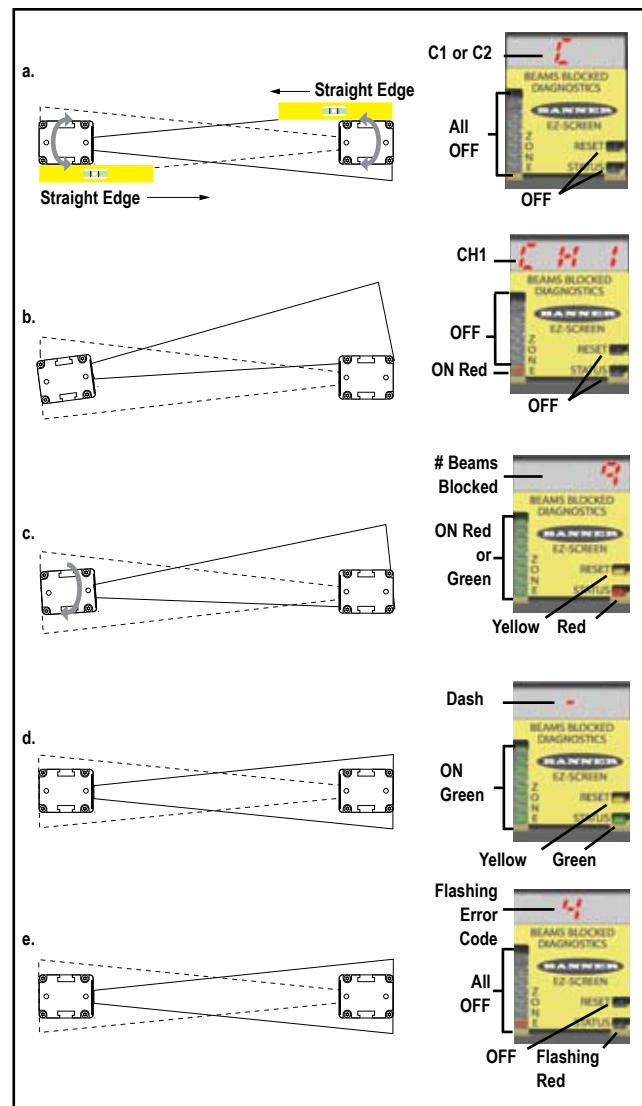

Figure 3-11. Optimum optical alignment
**To optimize alignment and maximize excess gain**, slightly loosen the sensor mounting screws (x4) and rotate one sensor left and right, noting the positions where the Status indicators turn Red (Blocked condition); repeat with the other sensor (see Figure 3-11). Center each sensor between those two positions and tighten the end cap mounting screws, making sure to maintain the positioning as the screws are tightened. The sensor lenses should directly face each other. Proceed to System Configuration (Section 3.4.2) once optimum optical alignment is verified.
- Ensure the emitter and receiver are pointed squarely at each other. A straight edge (e.g., a level) can determine the direction the sensor is facing (see Figure 3-11). The sensor face must be perpendicular to the optical axis.